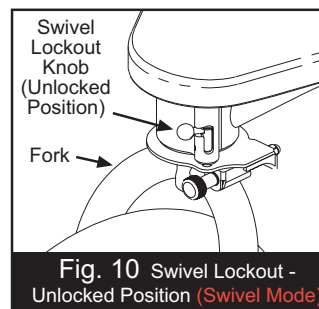
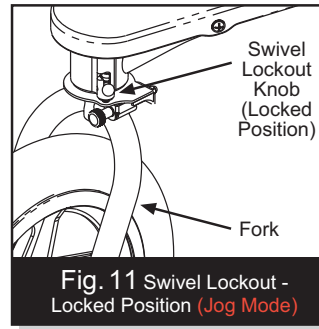

Fig. 10 Swivel Lockout - Unlocked Position (Swivel Mode)
Fig. 11 Swivel Lockout - Locked Position (Jog Mode)
**6. SWIVEL LOCKOUT:** The Revolution Stroller can be used in one of two modes. The stroller can be used as a swiveling wheel stroller (Swivel Mode) when the Lockout Knob is in the unlocked position (Fig. 10). Or, it can be used as a fixed wheel stroller (Jog Mode) when the swivel Lockout Knob is in the locked position (Fig. 11). To change from Swivel Mode to Jog Mode, lift and slide the Lockout Knob (Fig. 10) up and all the way to the right. Then release the knob, and it will snap down. Next, rotate the fork until the pin engages and locks the fork in position. You are now ready to use the stroller in Jog Mode. To change the stroller back to Swivel Mode, lift the Lockout Knob and rotate it to the left.